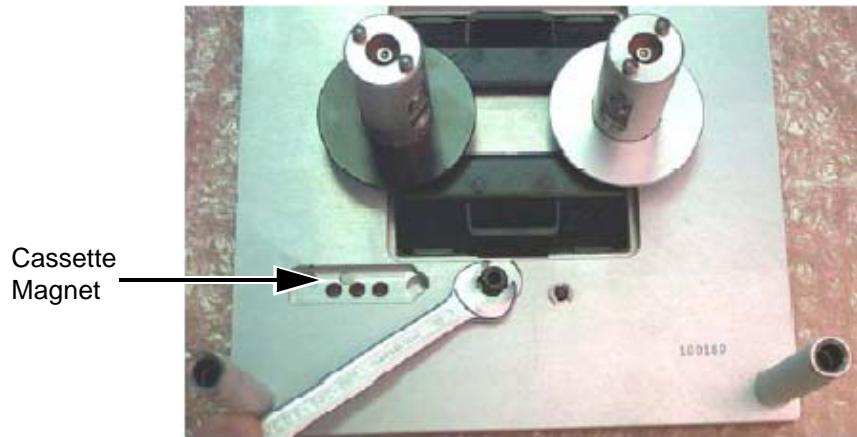

Figure 5-82: Latch Lock Nut Loosening
- 3 Loosen the lock nut on the cassette latch (10 mm), as shown in Figure 5-82 on page 5-55.